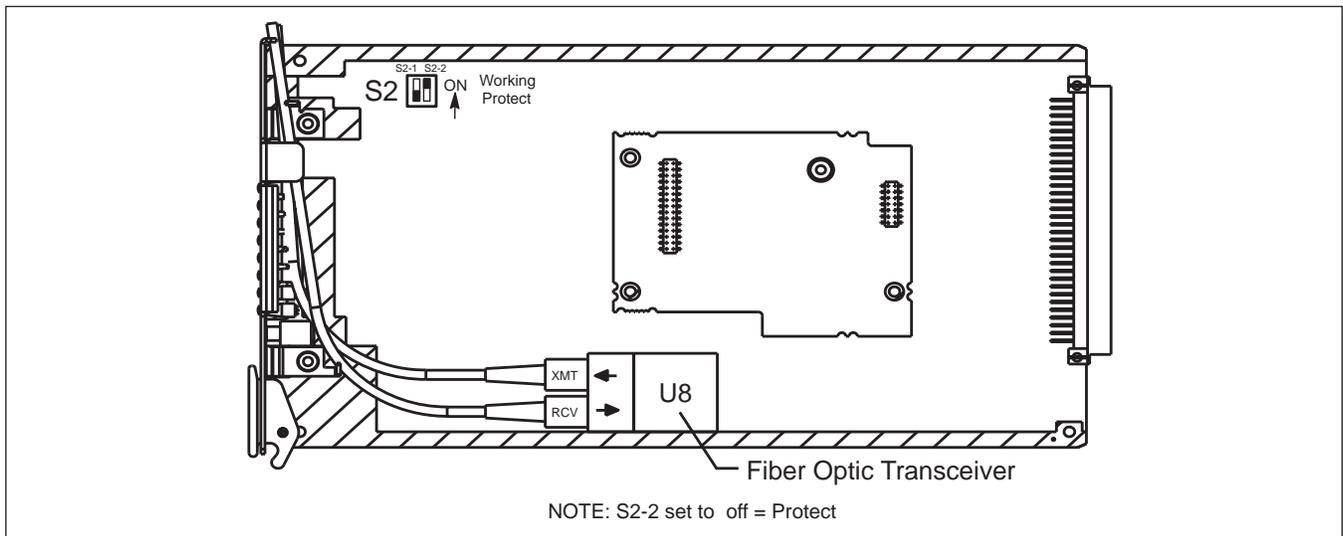

Figure 3. Fiber Optic Receiver Cabling
2. Plug the transmit and receive fiber cables into the fiber optic transceiver (U8) and route the cables as shown in **Figure 3**.